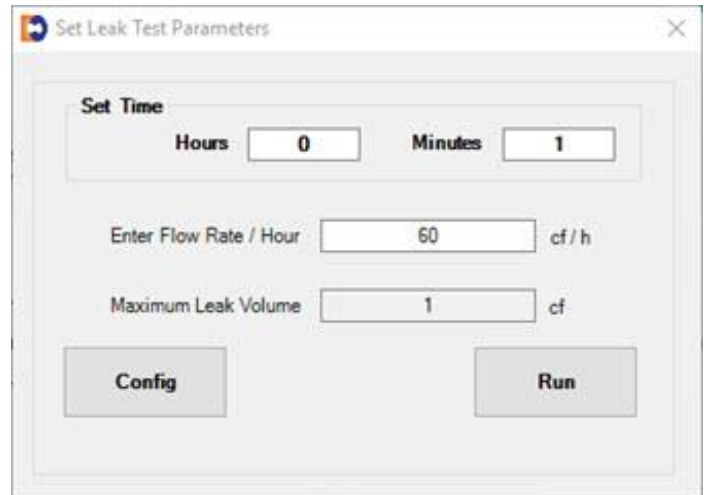

Figure 45: Set Leak Test Parameters
3. To change the default leak test parameters (refer to Figure 45), perform the following steps: